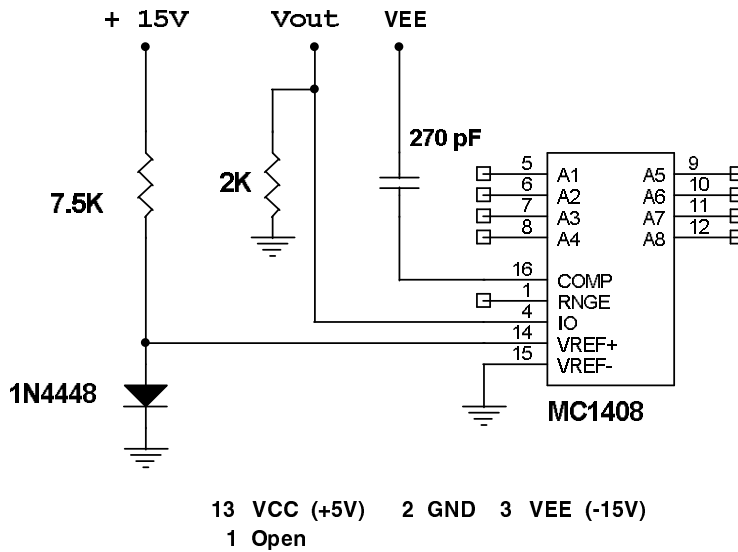

Fig. 2: Connections to an MC1408 Digital to Analog Converter
- Now wire up the MC1408 DAC as shown in Figure 2 and connect the input data lines to the output of the 8-bit counter. Run the entire system as a DAC, driving the counter with the pulser. The DAC will give approximately 0-4 Volts over the full 8-bit range.